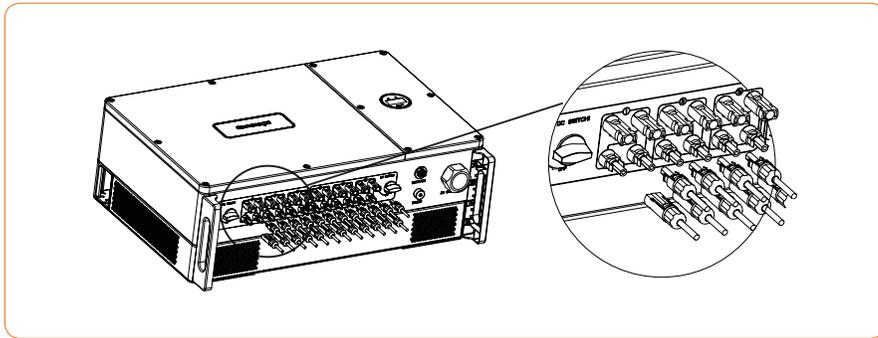

Figure 4-13
- ① Before assembling the DC connector, make sure that the cable polarity is correct.
- ② Use a multimeter to measure the voltage of the DC input string, verify the polarity of the DC input cable, and ensure that each string voltage is within 1000V.
**3. Insert the positive and negative connectors into the inverter DC input terminals respectively, a click sound should be heard if the terminals are well connected, as shown in Figure 4-13:**